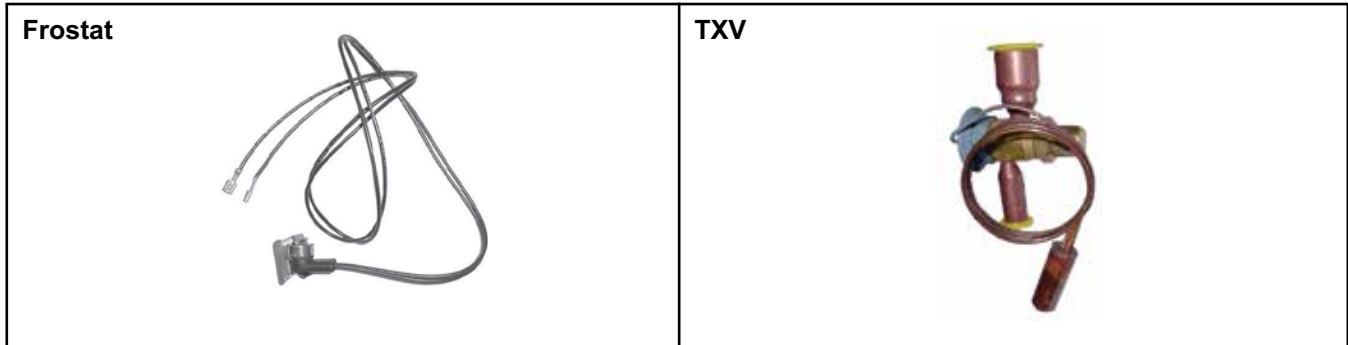

Figure 26. Frostat and TXV Used on DX Cooling Coil Cabinet with MASA Model Condensing Unit
- The frostat (model 3NT015, opens @35°F/closes @50°F, PN 177233) is shown in Figure 26.
- TXVs are shown in Figure 26 and listed in Table 44.